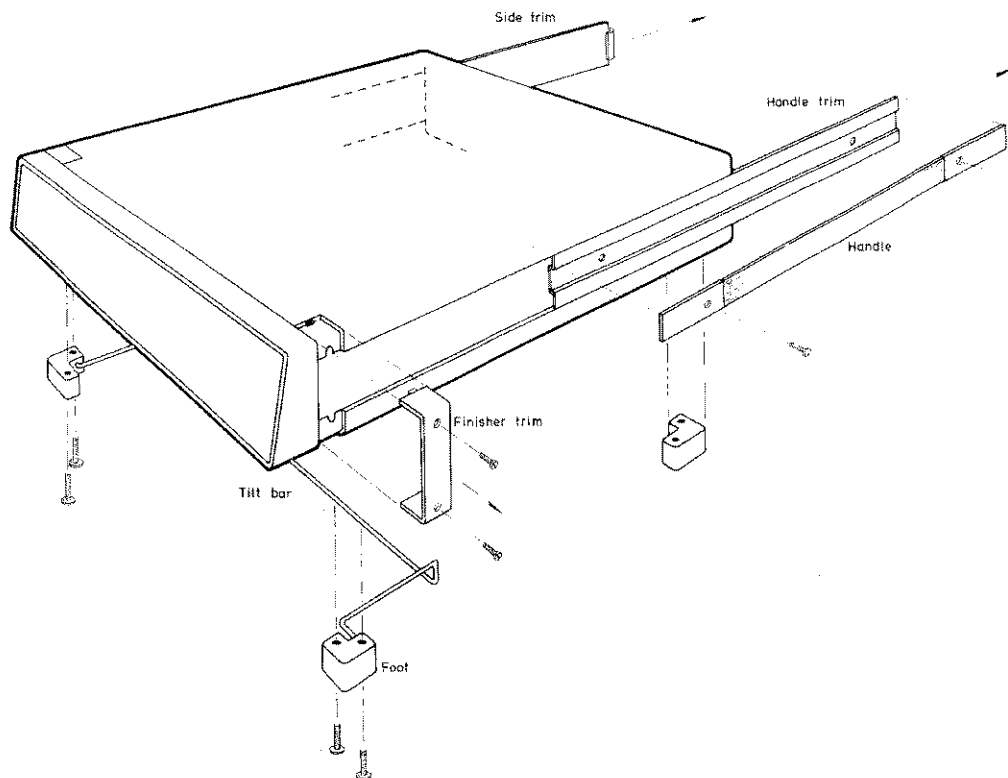

Fig A.3 Removal of trims, handle, feet and tilt bar
5.3.1 Remove the following items from the unit, as shown in Fig A.3:
- 5.3.5** Remove the following items from the unit, as shown in Fig A.3: